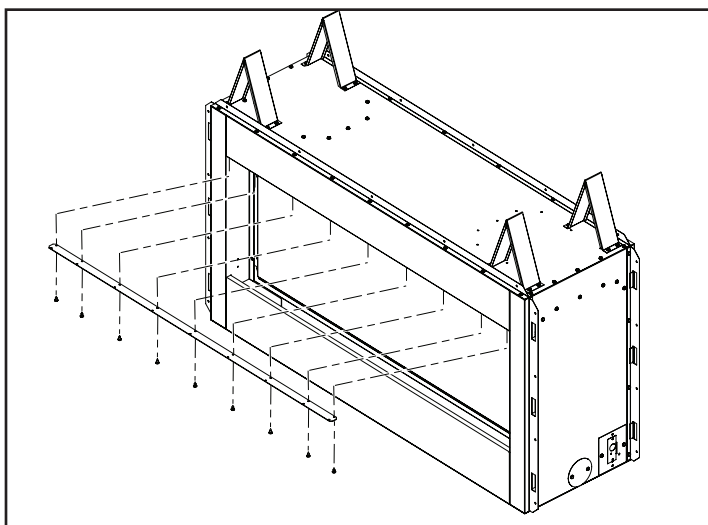

Figure 39 - Removing Mount Bracket for See-Thru Applications
2. Unscrew mount bracket from top face as shown in Figure 39, page 29. Discard mounting bracket and replace screws.